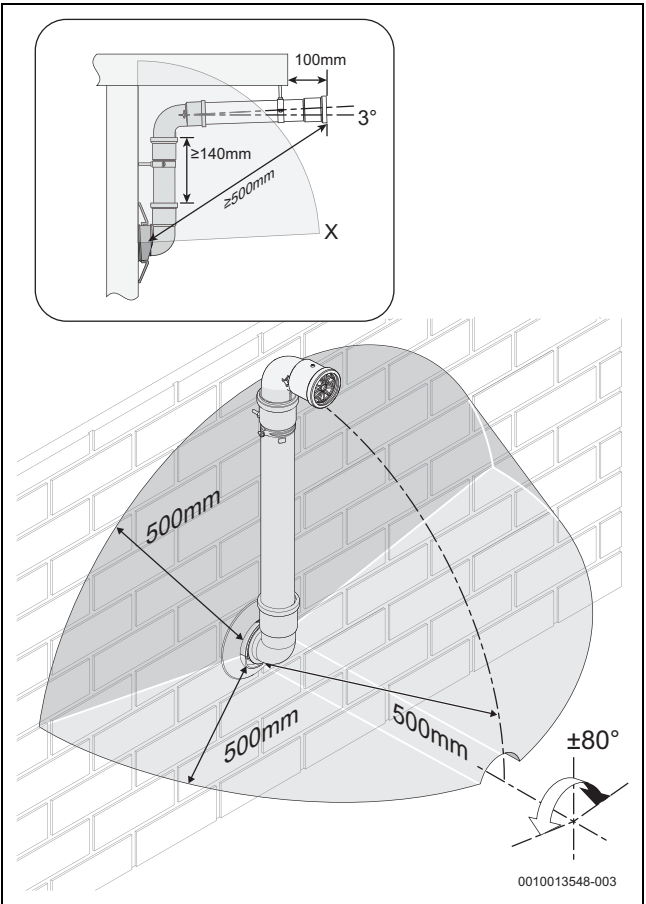

Fig. 38 Terminal exclusion zone X
- Do not terminate the plume management inside the terminal exclusion zone (shaded area) shown in figure 38.